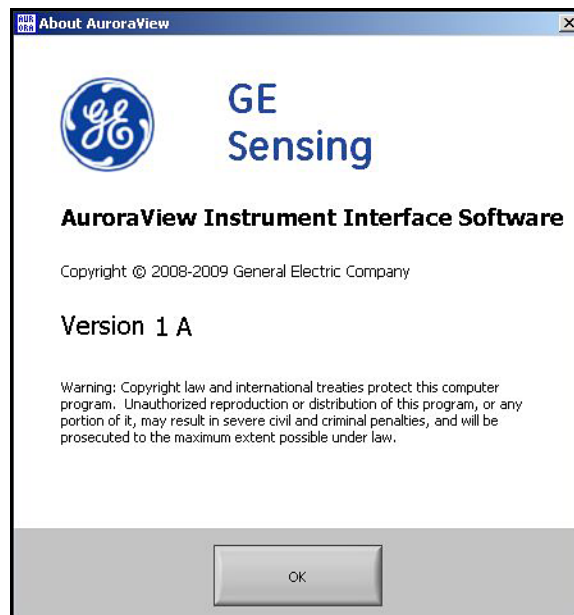

Figure 66: Software Information
6. Click Help (see *Figure 66* below).